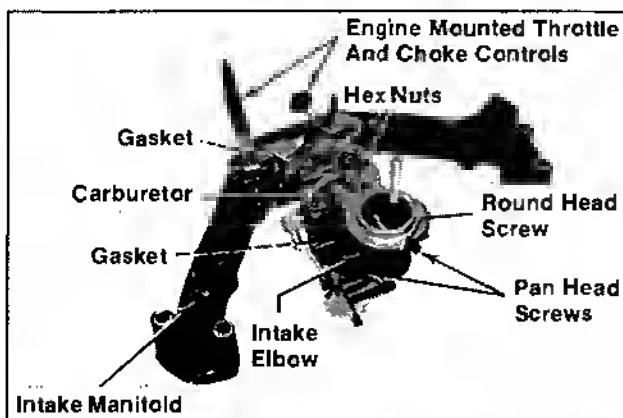

Figure 11-46. Installing Carburetor to Intake Manifold.
1. Install the gasket, intake elbow, plain washer, round head screw, internal tooth lock washers, and pan head screws to carburetor. Refer to Figure 11-46.